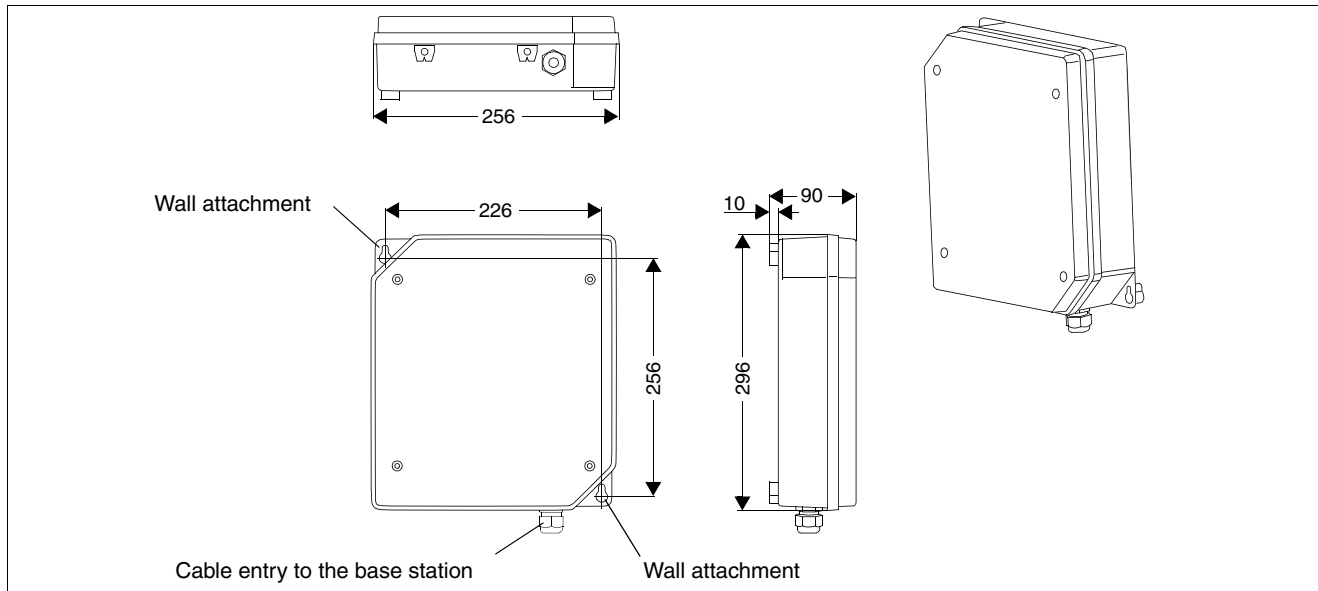

Figure 20
1. Drill two holes (5 mm diameter) 110 mm apart in the wall where the base station is to be mounted. Insert the wall anchors in the hole (see Figure 20).
For dimensions, see Figure 20.
For dimensions, see Figure 20. Insert the wall anchors in the holes.